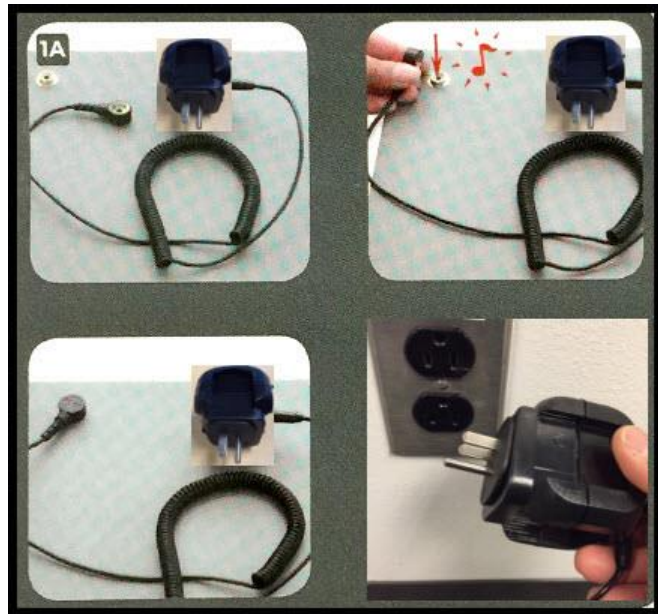

Figure 2. VAS6613 ESD work surface grounding plug.
4. Ground the ESD mat by plugging the 110V grounding strap into a wall socket or power strip (Figure 2). If a power strip is used, it must be plugged into a grounded wall outlet (see attached user instructions for VAS6613 titled "VAS6613 ESD Workspace Guide.pdf").